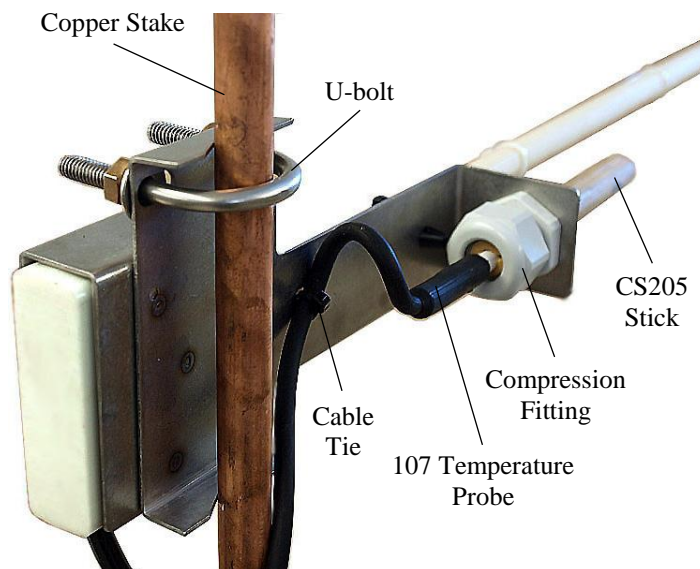
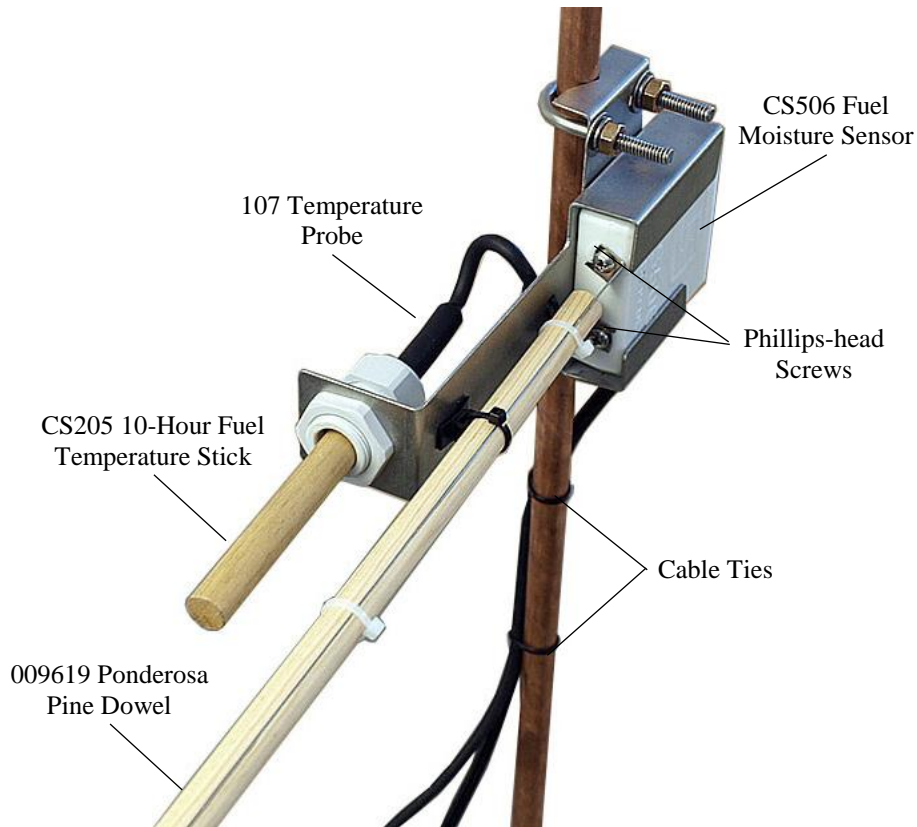

Figure 6-1. Back view of the 009620 fuel moisture/temperature mounting stake
Figure 6-2. Front view of the 009620 fuel moisture/temperature mounting stake
The CS205/107 is typically mounted with the CS506/009619 using the 009620 Mounting Kit (Figure 6-1 and Figure 6-2). The kit's bracket places the probes in a horizontal position.
10. Use the ultraviolet light resistant cable ties included in the 009620 mounting kit to secure the cables. One cable tie passes through the two slots in the bracket to loosely secure the cable of the CS205/107 (Figure 6-1). The other two cable ties secure both cables to the copper stake (Figure 6-2).